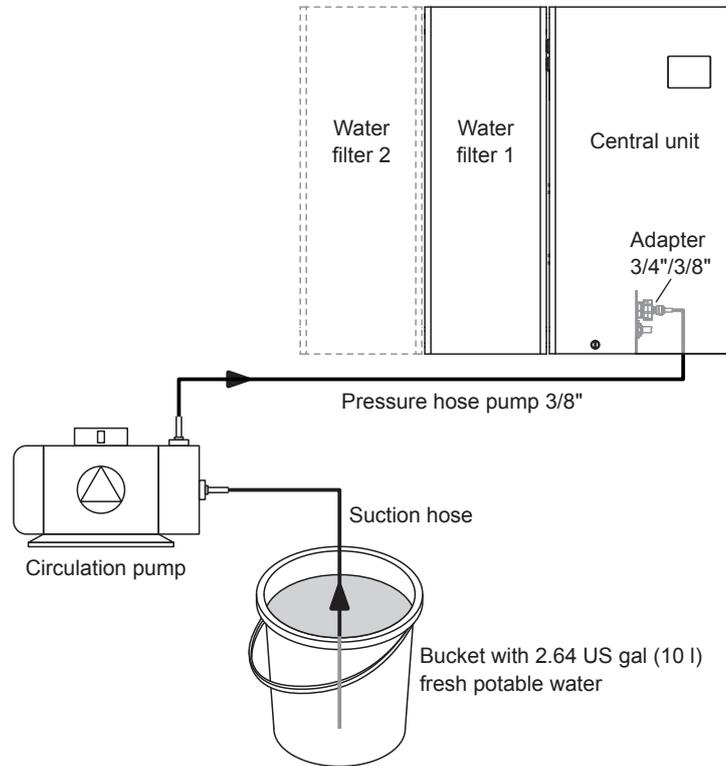

Fig. 73: Schematic diagram for the connection of the circulation pump for flushing
- Immerse the suction hose of the circulation pump (service accessory) into the bucket with the fresh potable water and connect the pressure hose to the supply connection of the central unit (see Fig. 73). Then start the circulation pump according to the instructions of the pump.